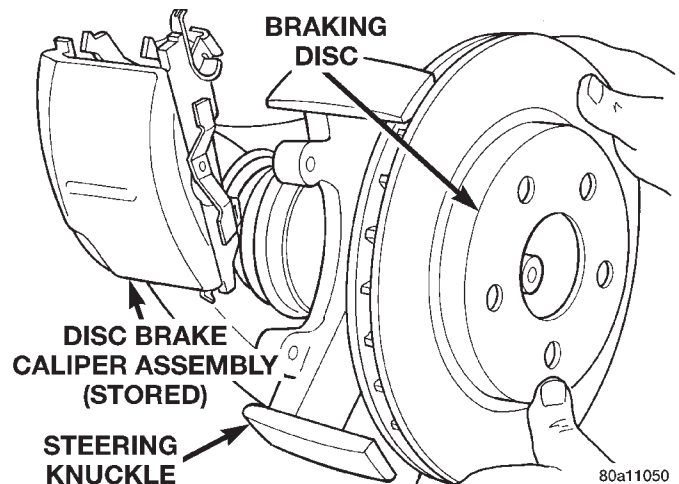

**Fig. 50 Removing / Installing Brake Rotor**
(7) Remove the brake rotor from the front hub (Fig. 50).
(2) Lubricate both steering knuckle abutments with a liberal amount of Mopar® Multipurpose Lubricant, or equivalent.
(3) Install the front rotor on the hub, making sure it is squarely seated on face of hub (Fig. 50).
(4) Remove the protective paper from the noise suppression gasket on both the inner and outer brake shoe assemblies (if equipped).